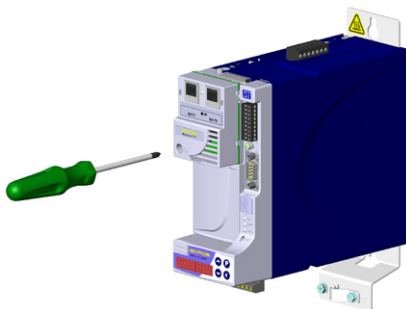

Figure 4.3: Fastening of the grounding screw of the accessory
4. Fasten the grounding screw of the accessory to the servo drive, as shown Figure 4.3 on page 9.